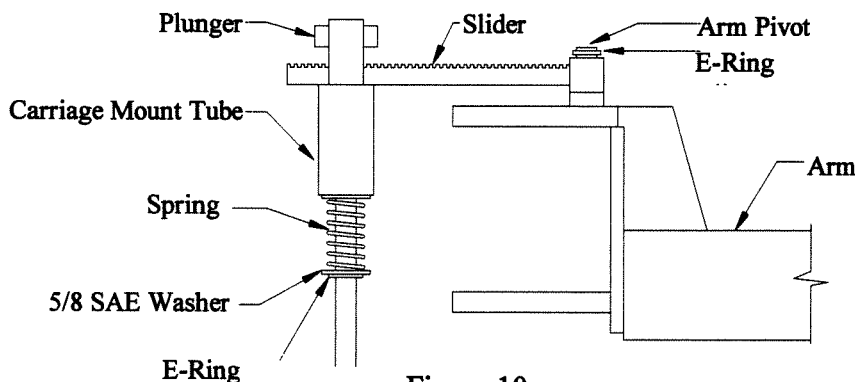

Figure 10
31. Refer to Figure 10 below. Attach the armlock parts as shown. The bumper sliders and rubber bumper parts are mounted on the two rear arms.